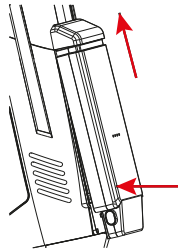

Fig. 3
4. Press the release button of Li-ion battery pack, then put the battery pack into the battery slot, and push it up slightly until you hear a click. **(Fig. 3)**